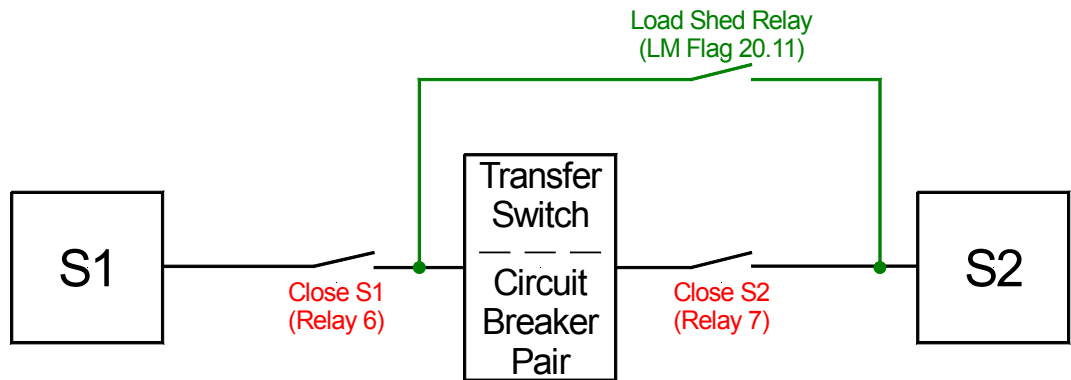
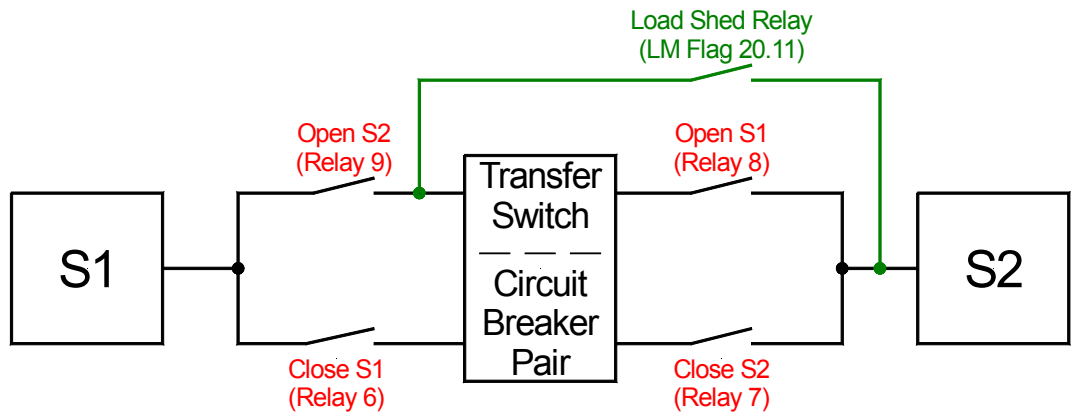

Figure 3-9: Load shed relay wiring - standard transition switch
Figure 3-10: Load shed relay wiring - delayed or closed transition switch
- If transfer switches are used, which may only be operated in case a measuring voltage is present, a transfer to the preferred source may only be possible, when it is present. If only the non-preferred source is present, the *LogicsManager* flag "Load shed" (20.11) will be enabled. This flag enables to close a load shed relay, which connects the voltage of the non-preferred source to the preferred source side of the transfer switch to operate it. If the neutral position (delayed / closed switch) or the preferred source position (standard switch) is detected by the DTSC, the load shed signal will be reset again. Refer to Figure 3-9 and Figure 3-10 for more detailed information.
Figure 3-9 shows how to wire a load shed relay for applications, which use a standard transition switch (S1 is the preferred source and S2 is the non-preferred source with this application).
Figure 3-10 shows how to wire a load shed relay for applications, which use a delayed or closed transition switch (S1 is the preferred source and S2 is the non-preferred source with this application).